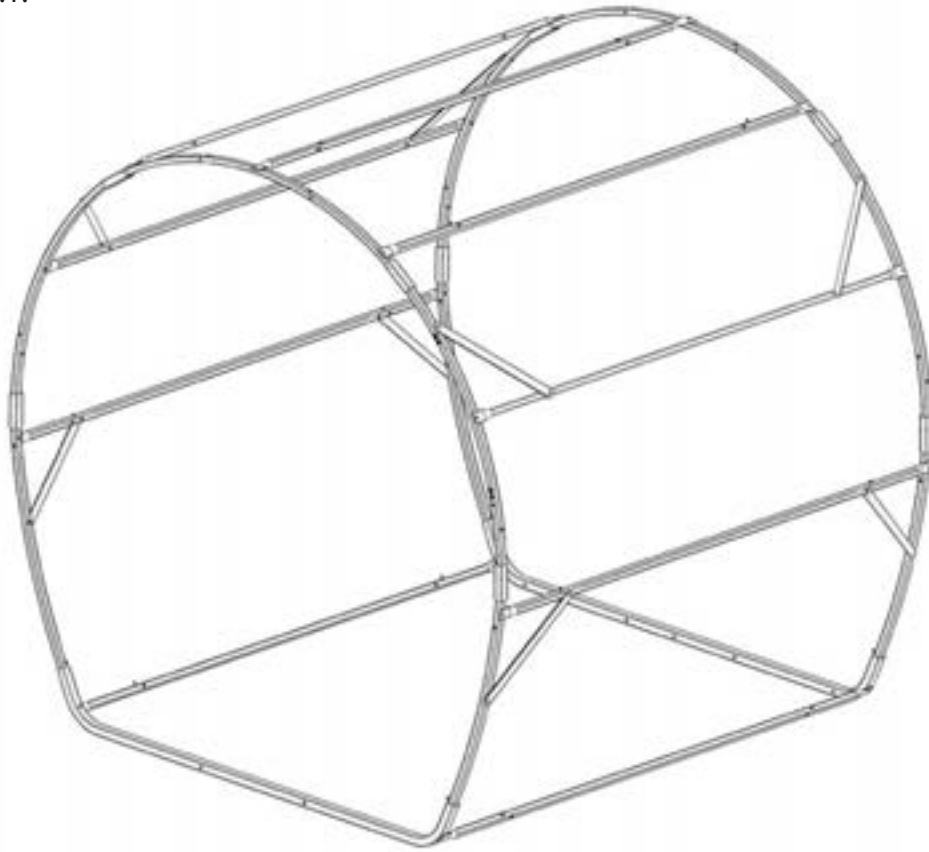

Figure 20.1
STEP 12: Install the top of Section 4 that was created in Step 9 into Section 3 that was created in Step 7 and install the bottom of Section 5 that was created in Step 11 into the frame base that was created in Step 2, resulting in the frame illustrated in Figure 20.1.